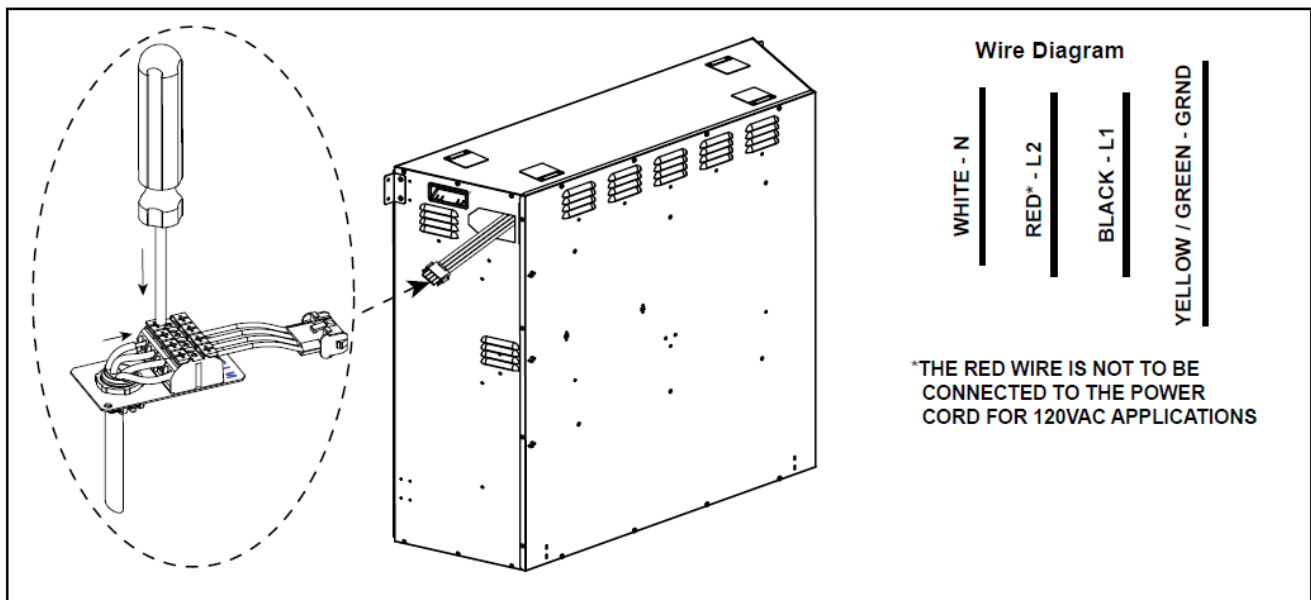

Figure 4.5 Hard-Wired Installation
3. Terminate type NM-B wire to the terminal block, ensure connections are secure, and tighten the strain relief. To load wire conductors into the junction block, depress the spring-loaded terminals on the junction block by hand or use a screwdriver. See Figure 4.5.